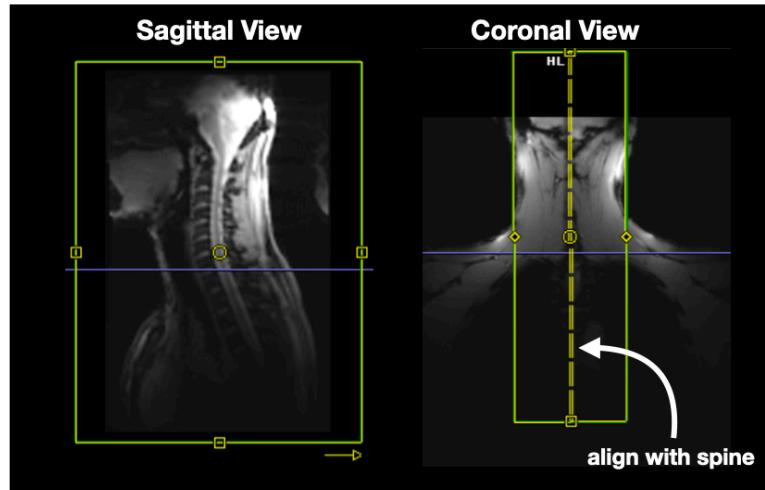

Figure 12. Positioning of FOV GRE scan.
- Position the B0 adjust volume according to Figure 12. The B0 shim volume should cover the whole FOV. If it does not, go to System > Adjust Volume, and click Reset.